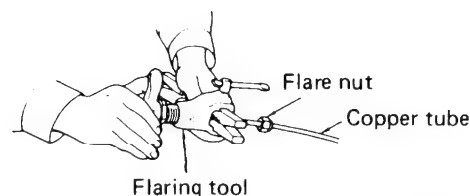

Fig. 24
- Make a flare at the end of copper tube with a flaring tool\* Fig. 24 (\*Use "RIGID" or equivalent.)